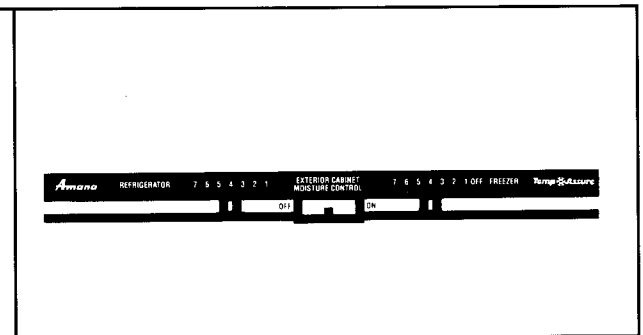

Figure 53
1. Locate refrigerator and freezer controls at inside front, top of refrigerator section. See Figure 53.